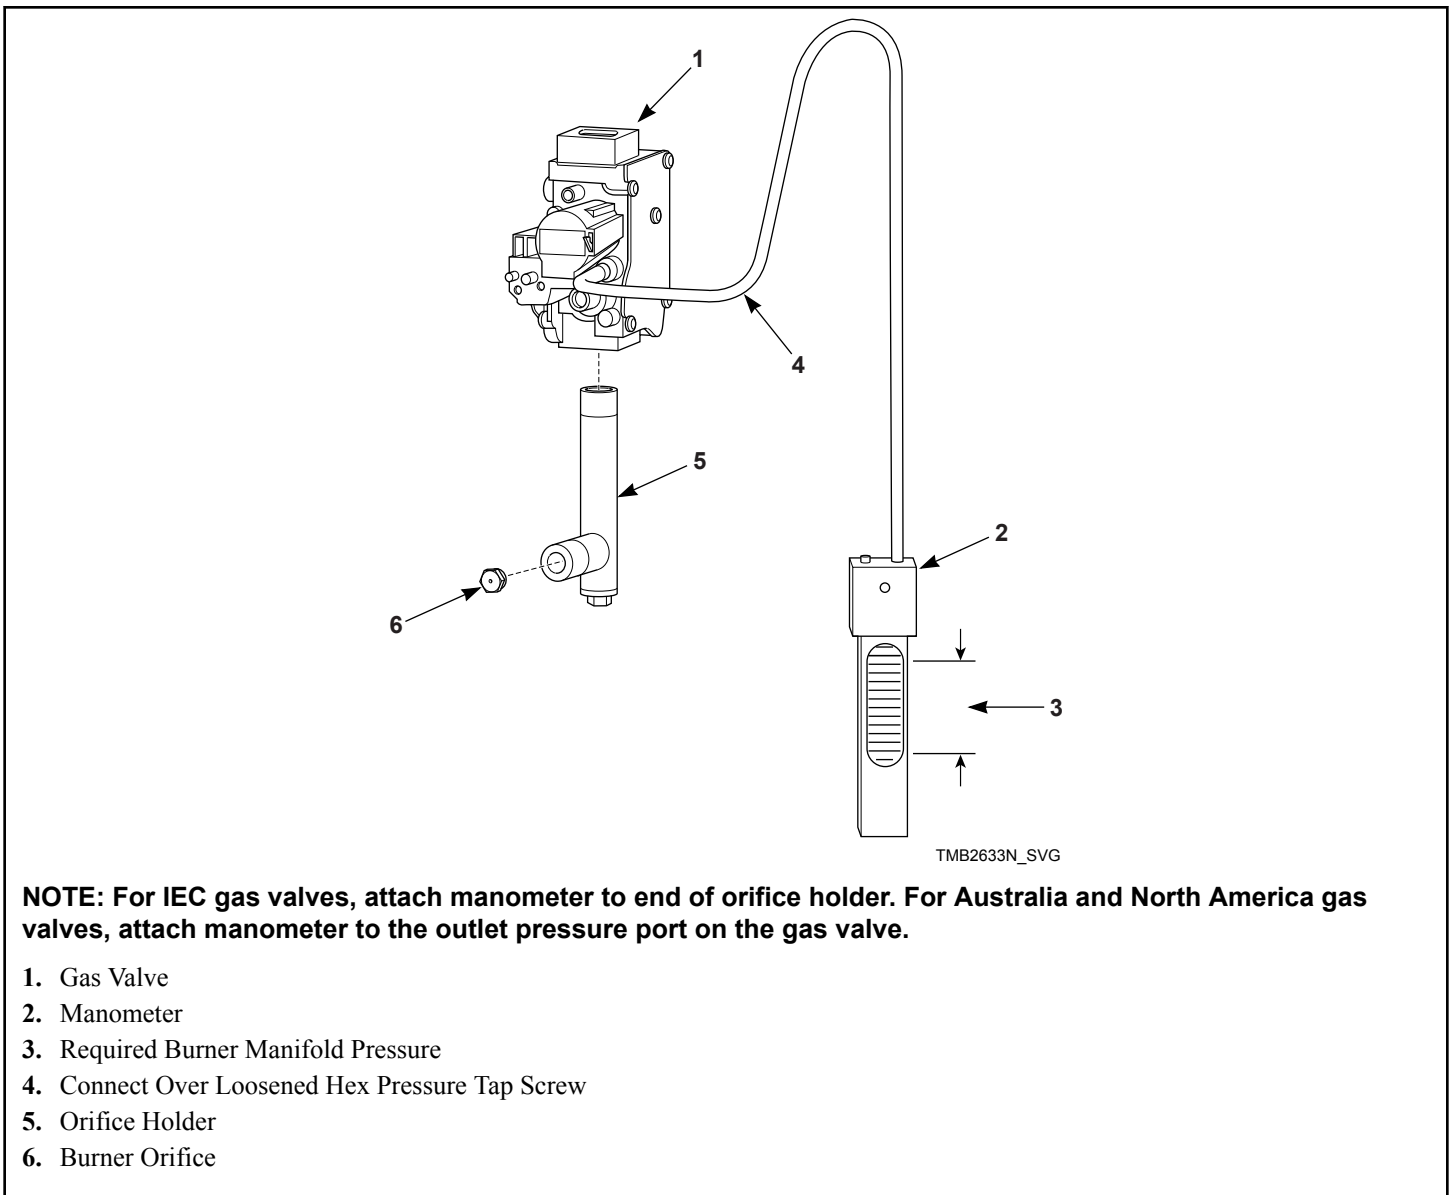

Figure 20
2. Remove orifice holder. Unscrew orifice holder nut near gas valve. Remove the burner orifice(s) from orifice holder. Refer to *Figure 20* .
1. Check gas burner orifice (manifold) pressure as follows. Refer to *Figure 20*.
4. Start tumble dryer and note pressure once flame is burning. Remove regulator cap and adjust regulator screw until the burner orifice pressure per applicable table is achieved. Replace regulator cap. Refer to *Figure 20*.